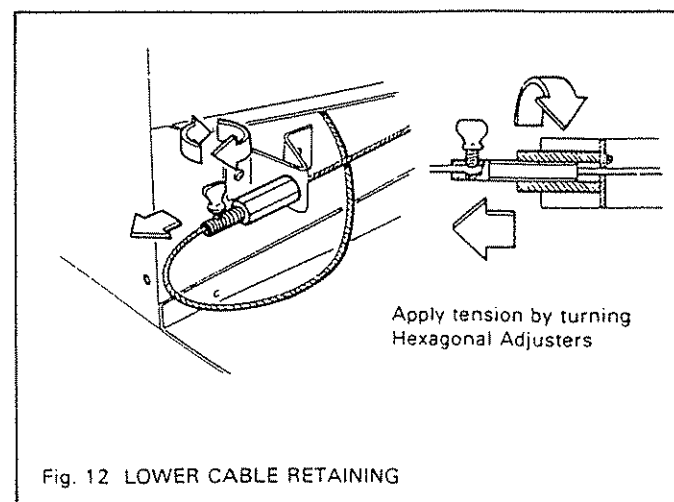

Fig. 12 LOWER CABLE RETAINING
- 7.1.2.8 Pull each cable taut. Push the cable retainers hard up against the "V" brackets and tighten the screws in the retainers so that they clamp the cables in position. Apply tension to the cables by turning the hexagonal adjusters by hand (see fig. 12).